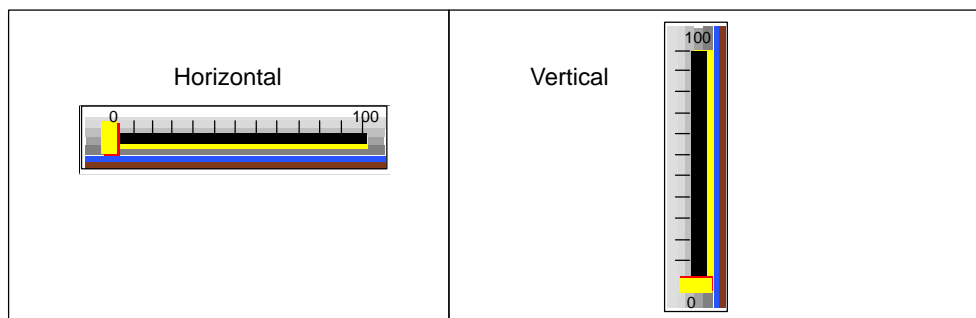

Figure 6-19 Orientation of the Slider Control
- “Direction” sets the orientation (horizontal or vertical) of the control. See Figure 6-19.